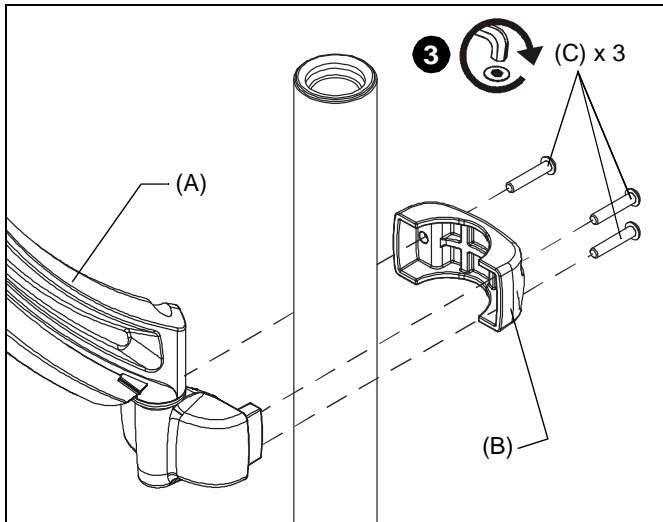

Figure 1
2. Place pole clamp arm (A) against pole in approximate mounting location. (See Figure 1)
3. Loosely fasten three 1/4-20 x 1-1/4" button head cap screws (C) into back clamp (B) and place against pole aligning with pole clamp arm (A). (See Figure 1)